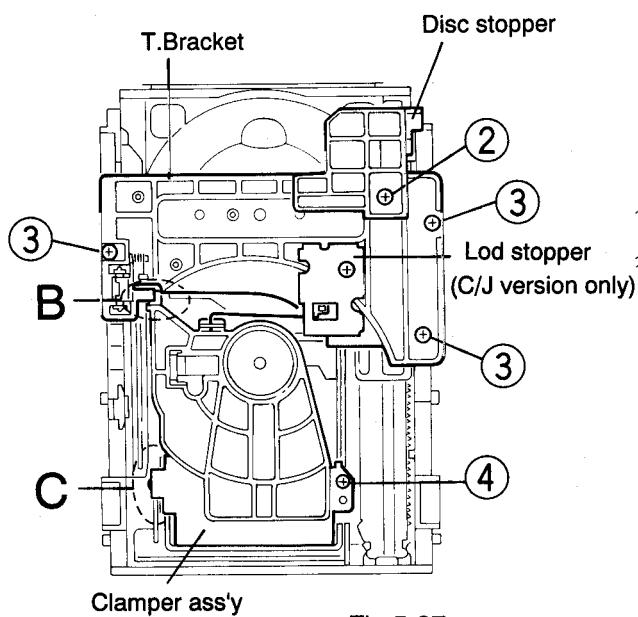

Fig.5-37
5. Remove the screw ② retaining the Disc stopper (See Fig. 5-37).
6. Remove the three screws ③ retaining the T. bracket (See Fig. 5-37).
7. Remove the screw ④ retaining the clamper assembly (See Fig. 5-37).